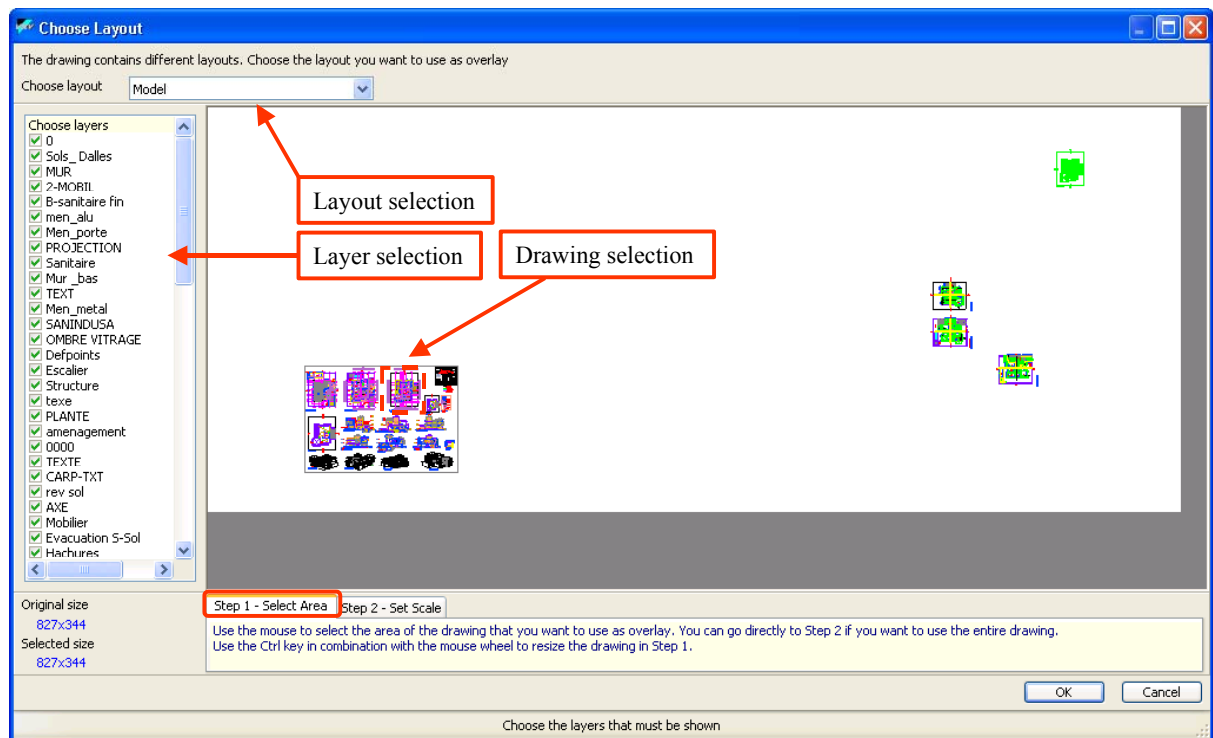

Figure 17: Selecting the required drawing from an AutoCAD file
- For AutoCAD files, VRVPro first brings up a window as in Figure 17, containing three selection criteria: the required layout, the required layers and the required drawing:
- The actual drawing may be as tiny as shown in Figure 17, containing about 16 different and detailed drawings in the rectangle at bottom left and four others in the rest of the overview. It may also be an AutoCAD file containing only one drawing at a readable scale. The first step is selecting the required drawing by clicking the mouse and dragging the cursor while keeping the mouse button pressed down. VRVPro displays the actual selection in a rectangle with a white background color and paints the remaining of the drawing in dark gray.